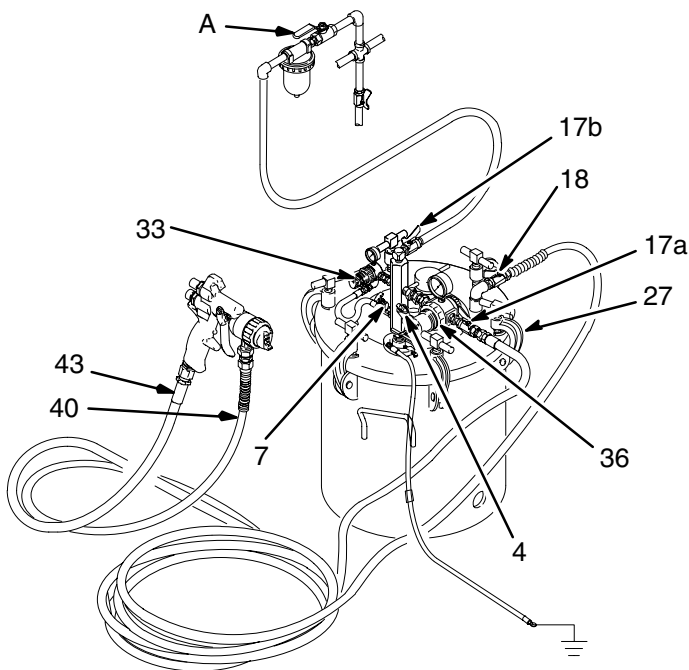

Fig. 5
1. Close the gun air shutoff valve (17a). See Fig. 5.
2. Open the air relief valve (7) by turning it counter-clockwise. Leave it open until you reinstall the pressure pot cover or fill port.
1. With the system primed and the gun air regulator closed (36), trigger the gun and adjust the pressure pot air regulator (33). Refer to Fig. 5. If available, use the pressure setting provided by your fluid supplier. Otherwise, use the following instructions to determine the fluid pressure.